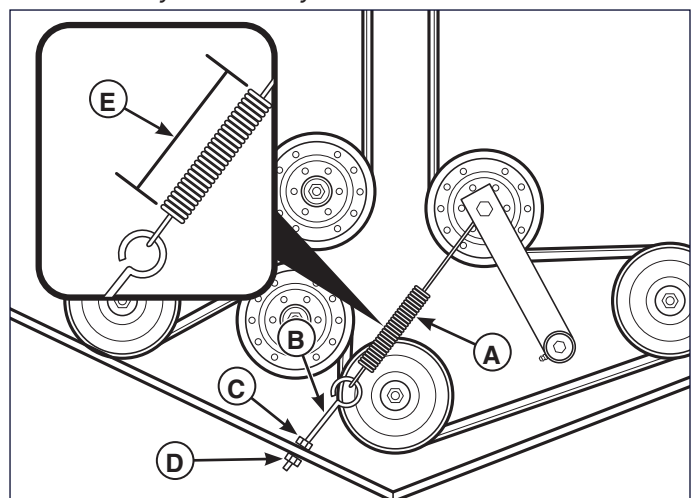

Figure 28. Mower Belt Idler Spring Length
3. Measure the coil length of the mower belt tensioner spring (A, Figure 28). The measurement should equal the measurement as designated in the chart. If the measurement does not equal the measurement as designated in the chart, adjust the anchor eyebolt (B).
1. Loosen the jam nut (C, Figure 28).
2. Turn the adjustment nut (D) until the measurement as designated in the chart is achieved.